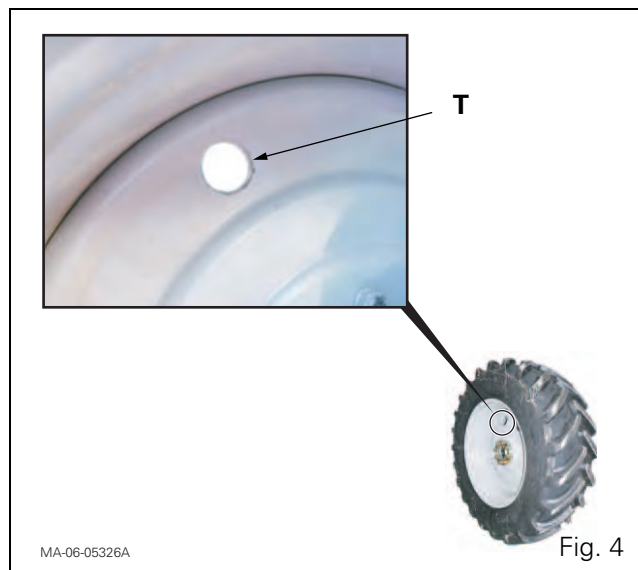

Fig. 4
- the wheel, using a lifting device and a suitable sling to be inserted into hole T of the wheel disc (Fig. 4).